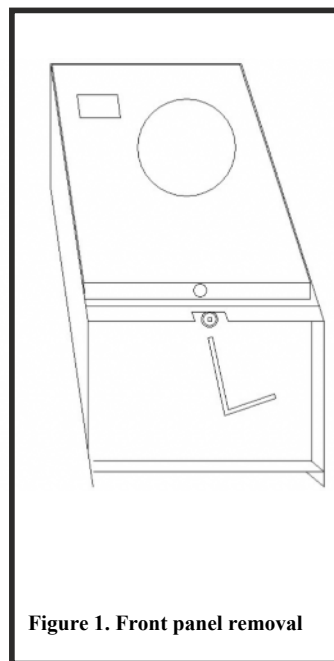

Figure 1. Front panel removal
- ii. See Figure 1. Using the 2.5mm hex driver remove the flang screw and remove the front panel by pulling towards base v lifting bottom edge slightly outwards and then lifting panel **IMPORTANT**. It is essential that panel recess is clear of case lip before attempting to lift panel out. Rotate front p withdraw 9 way connector from printed circuit board, thus : front panel from the meter case. Set programming switches (s and place panel in a safe place.